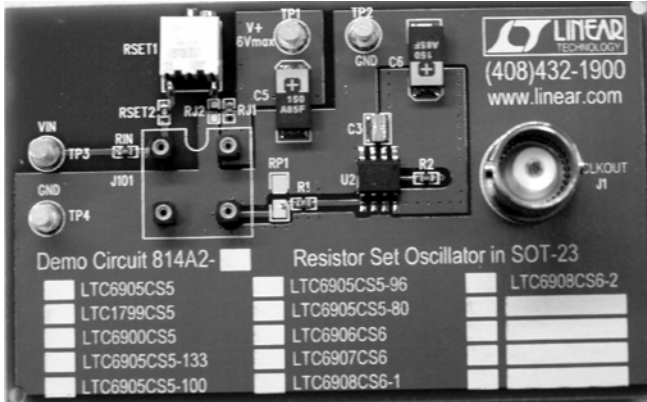

Figure 4. The DC814A2-X Buffer Board
3. Connect a resistance meter from the V+ turret to pin 1 of the buffer board socket (see figure 4). Adjust the buffer board potentiometer (RSET1) to set the total resistance (RSET1 plus RSET2) for the desired frequency. Table 5 shows the equation for RSET (RSET1 plus RSET2). The resistor designator for the RSET resistor on the DIP-8 clock board is RS1.